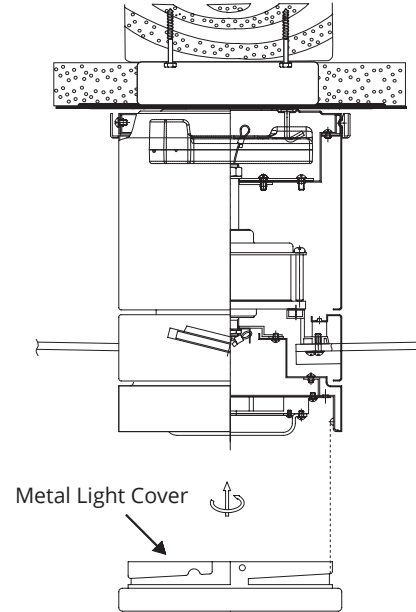

FIG. 22
5. If installing the optional metal light cover, make sure it is securely tightened (**FIG. 22**).
NOTE: Add metal light cover if you do not need lighting function or prefer a different aesthetic (**FIG. 22**).